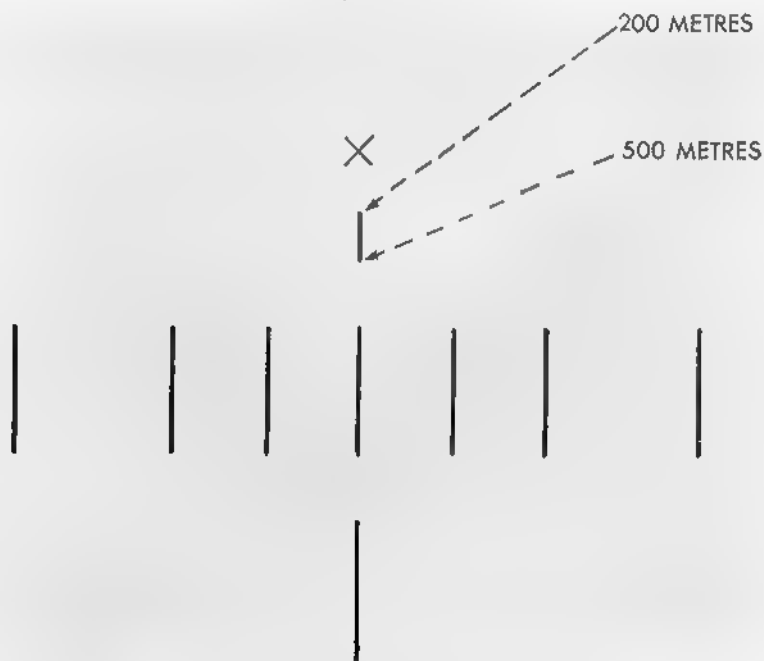

Fig. 48.—The reticle
- f. Using the graticule screws (*see* Fig. 45.), move the 200 metre aiming point of the pattern (*see* Fig. 48.), until it is on the same point of aim as the iron sight.